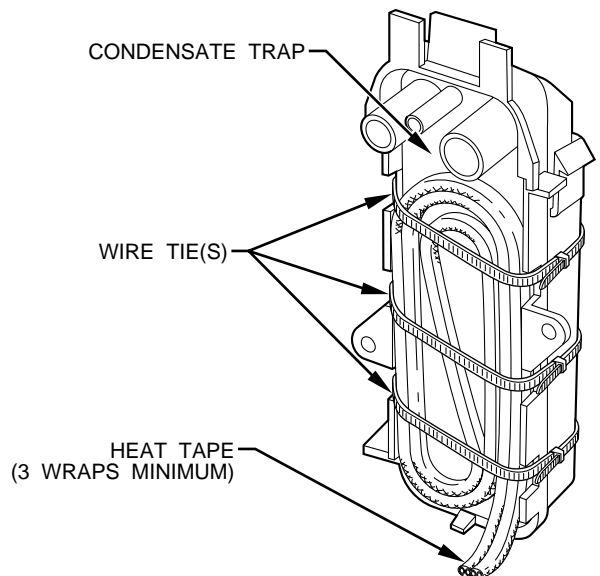

Fig. 49—Condensate Trap Heat Tape
2. Locate heat tape between sides of condensate trap back. (See Fig. 49.)
3. Use wire ties to secure heat tape in place. Wire ties can be positioned in notches of condensate trap sides. (See Fig. 49.)